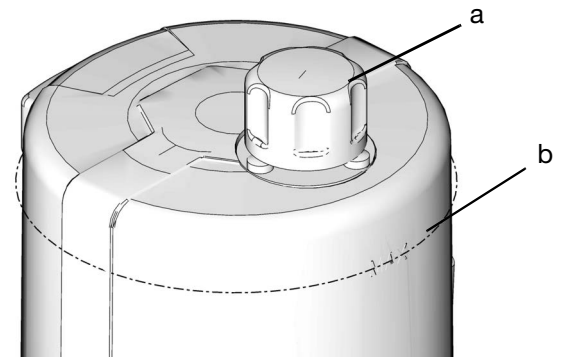

**FIG. 30**
- To relieve pressure between the Refill Pump (F) and Auto-Fill Shut Off (B), open the Supply Hose Pressure Relief Valve (Y) (FIG. 30). Pressure will be released and excess fluid will drain out of the drain tube (L) and into the lubrication overflow container (W).